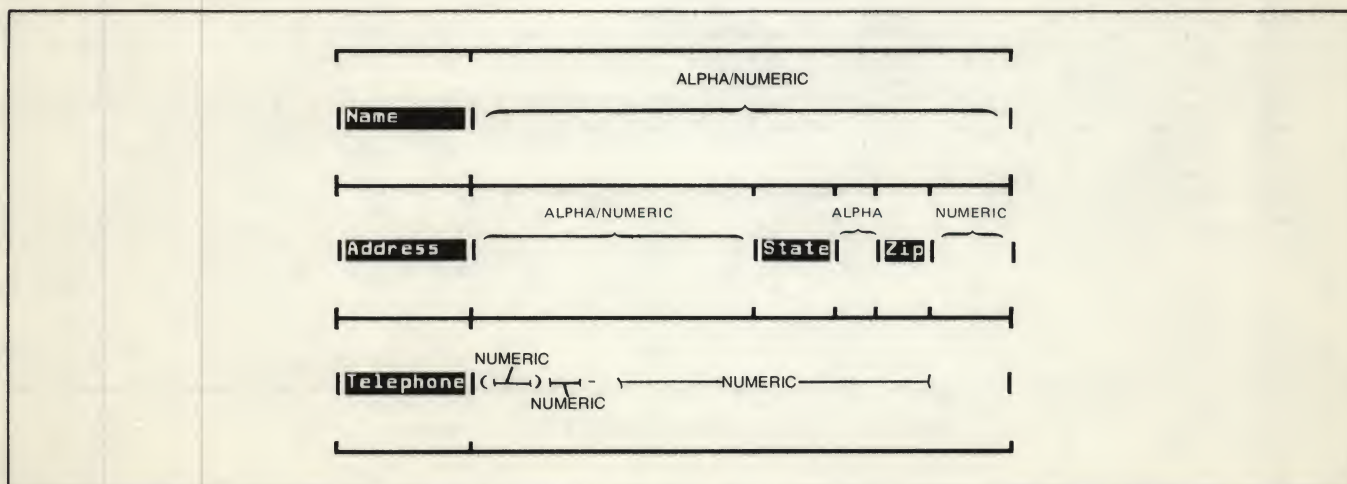

Figure A-7. Building a Form — Phase 3
3. Move the cursor to the beginning of each of the remaining unprotected fields, and define each as ALPHA, NUMERIC, ALPHANUMERIC, or undefined, as applicable. Figure A-7 shows the definition of each field.